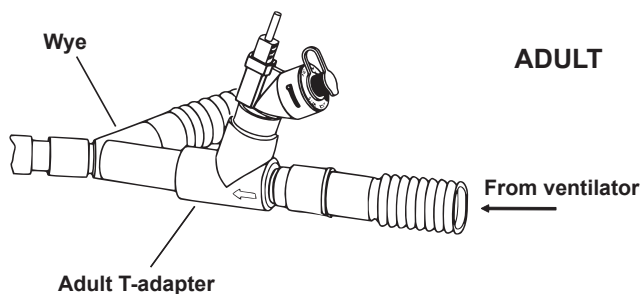

Figure 7: Connecting to an adult breathing circuit (Part Number: AG-AS3010)
1. For **adult breathing circuits**, connect the nebulizer unit with adult T-piece into the inspiratory limb of the breathing circuit before the patient wye (Figure 7).